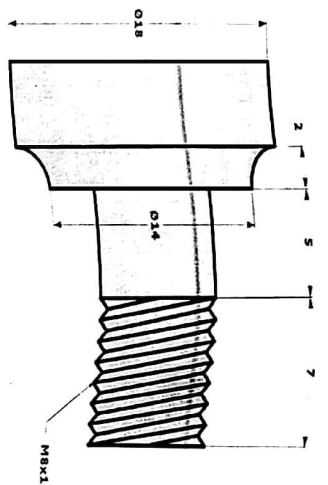

Fig. 2
- Q3 (a) Write a CNC part program for the component as shown in the Fig. 2. 10